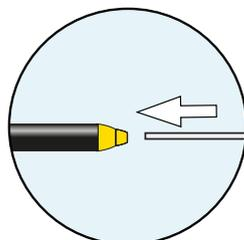

Fig 6.
5. Push the other end of the carbon fibre rod into the yellow connector on the arm section. (Fig 6)